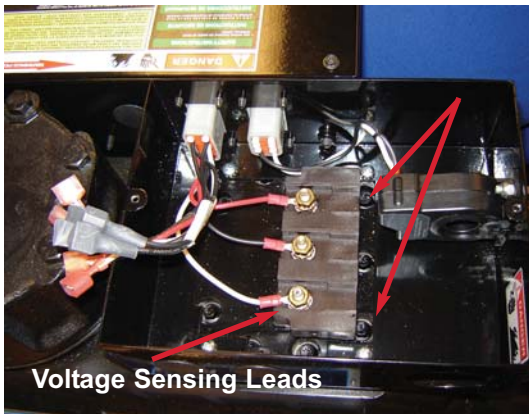

Figure 5.6 Terminal Box
3. Inside the Rear Terminal Box (figure 5.6)